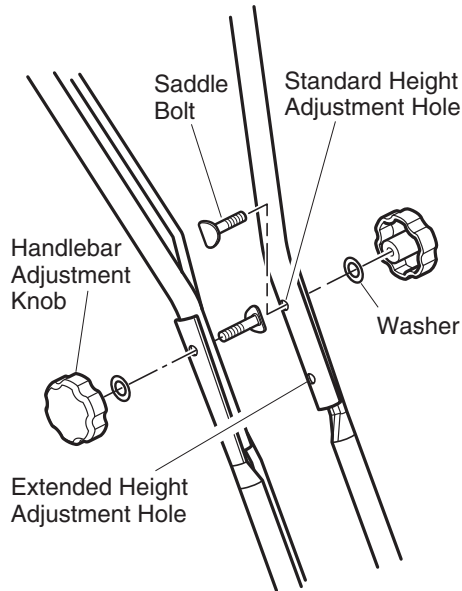

Figure 3 - Adjusting Handlebar Height
2. Position handlebar so that the bottom holes in the handlebar line up with the holes in the lower handlebar supports (see Figure 3). Insert the saddle bolts through the holes and reinstall the washers and handlebar knobs.